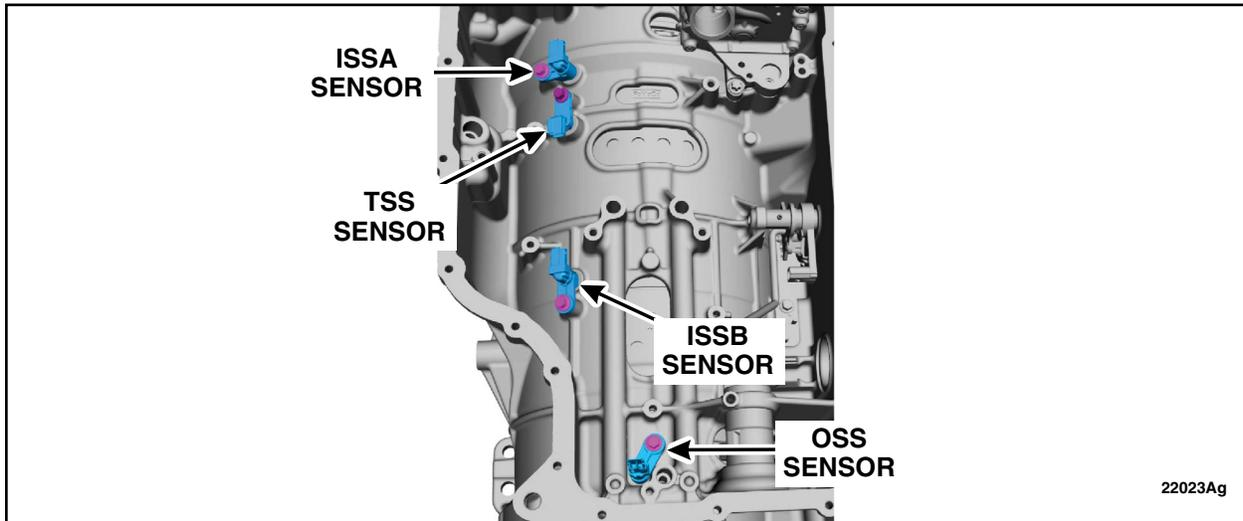

FIGURE 65
74. Install the ISSA, TSS, ISSB, and OSS speed sensors. See Figure 65.